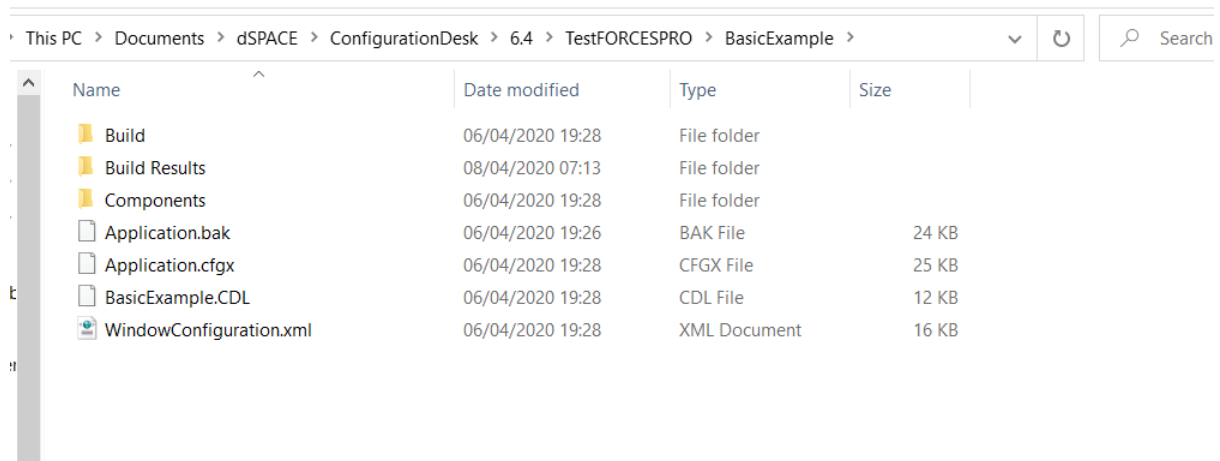
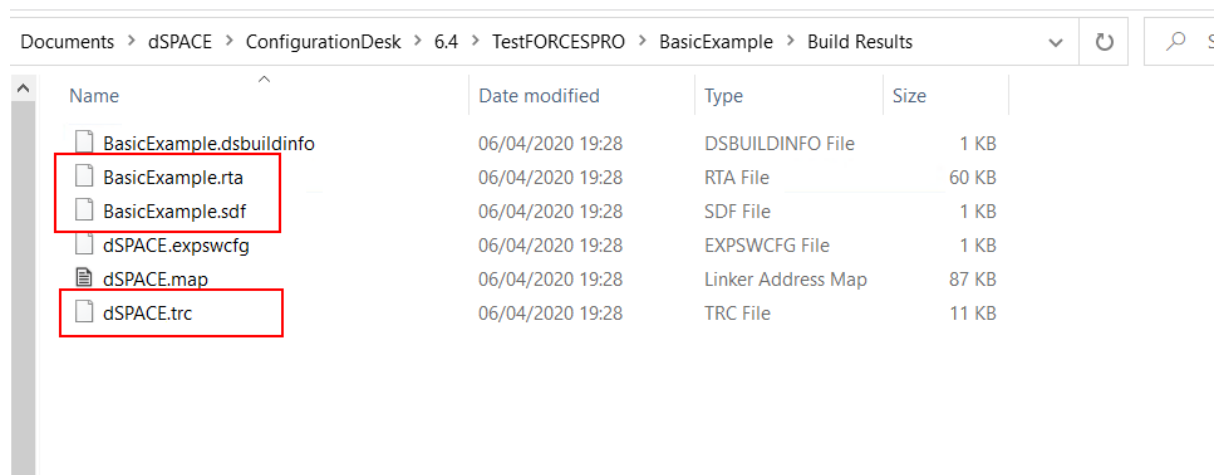

Figure 13.47: The generated files from the ConfigurationDesk building.
Figure 13.48: The files necessary for the simulation of the FORCESPRO controller.
- 1) After code generation with FORCESPRO and building with the ConfigurationDesk, the ConfigurationDesk project will have generated files to use to run your model on the dSPACE platform (see Figure 13.47 and Figure 13.48).